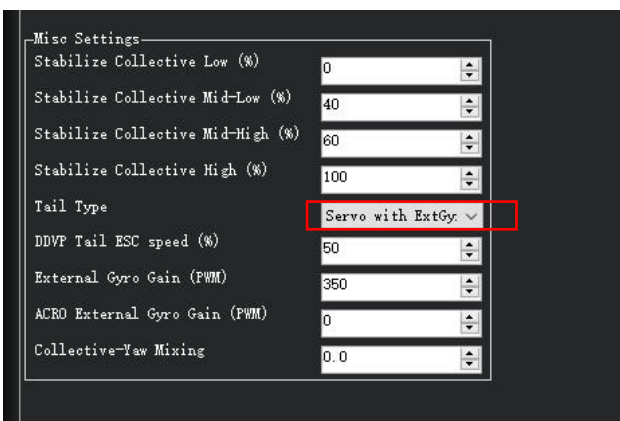
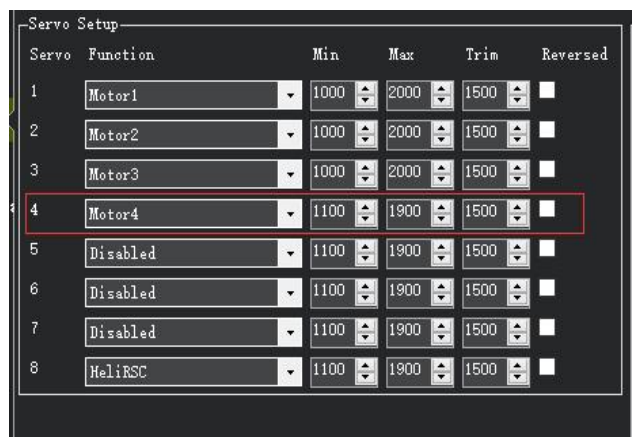

Figure 3 Select Servo with External Gyro
Figure 4 Set Output Channel
2. Servo with External Gyro: ArduPilot will output yaw demands without direct yaw attitude stabilization which is provided via an external gyro. As shown in Figure 3 below, select Servo with External Gyro in the Tail Type drop-down menu to configure the tail servo control with an external gyro. As shown in Figure 4 below, set the parameter SERVOx_FUNCTION to Motor4 to control the tail servo. (The default output channel is channel 4.)